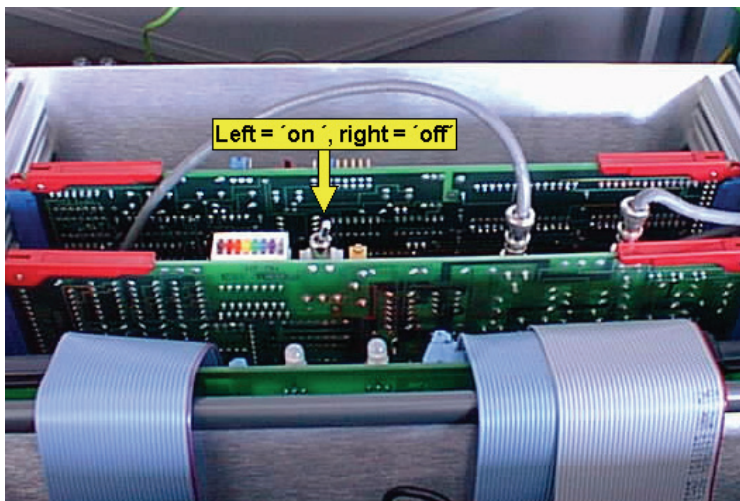

Figure 76 Photomultiplier switch
2. Turn off the voltage to the photomultiplier, as shown in Figure 76.